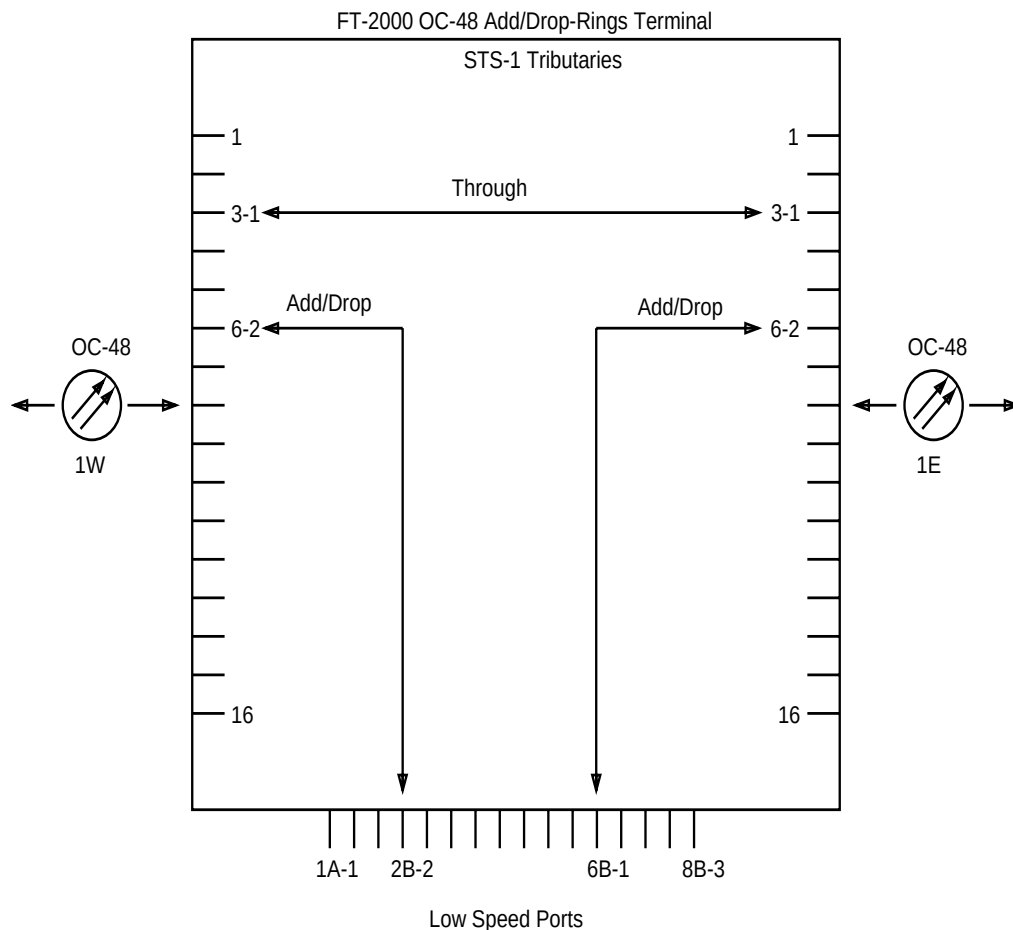

Figure 8-13. STS-1 2-Way Cross-Connections at an FT-2000 OC-48 Add/Drop-Rings Terminal
- **Add/drop cross-connections:** Add/drop cross-connections are made between any service low-speed port and any STS-1 tributary of OC-48 high-speed line 1E or 1W. For example, Figure 8-13 shows service low-speed port 2 of slot 2B (2B-2) cross-connected to service STS-1 tributary 2 of STS-3 tributary 6 (6-2) on OC-48 high-speed line 1W.
- **Through cross-connections:** Through cross-connections are made between any STS-1 tributary on OC-48 high-speed line 1E or 1W and the same-numbered STS-1 tributary of the other OC-48 high-speed line. For example, Figure 8-13 shows service STS-1 tributary 1 of STS-3 tributary (3-1) on OC-48 high-speed line 1W cross-connected to service STS-1 tributary 1 of STS-3 tributary 3 (3-1) on OC-48 high-speed line 1E.
When an STS-1 tributary of OC-48 high-speed line 1E or 1W is cross-connected to a service low-speed port, another service low-speed port may be cross-connected to the same-numbered STS-1 tributary of the other OC-48 high-speed line. For example, Figure 8-13 shows service low-speed port 2 of slot 2B (2B-2) cross-connected to service STS-1 tributary 2 of STS-3 tributary 6 (6-2) on OC-48 high-speed line 1W, and service low-speed port 1 of slot 6B (6B-1) cross-connected to service STS-1 tributary 2 of STS-3 tributary 6 (6-2) on OC-48 high-speed line 1E. This is consistent with the 2-fiber bidirectional, line-switched ring standard.